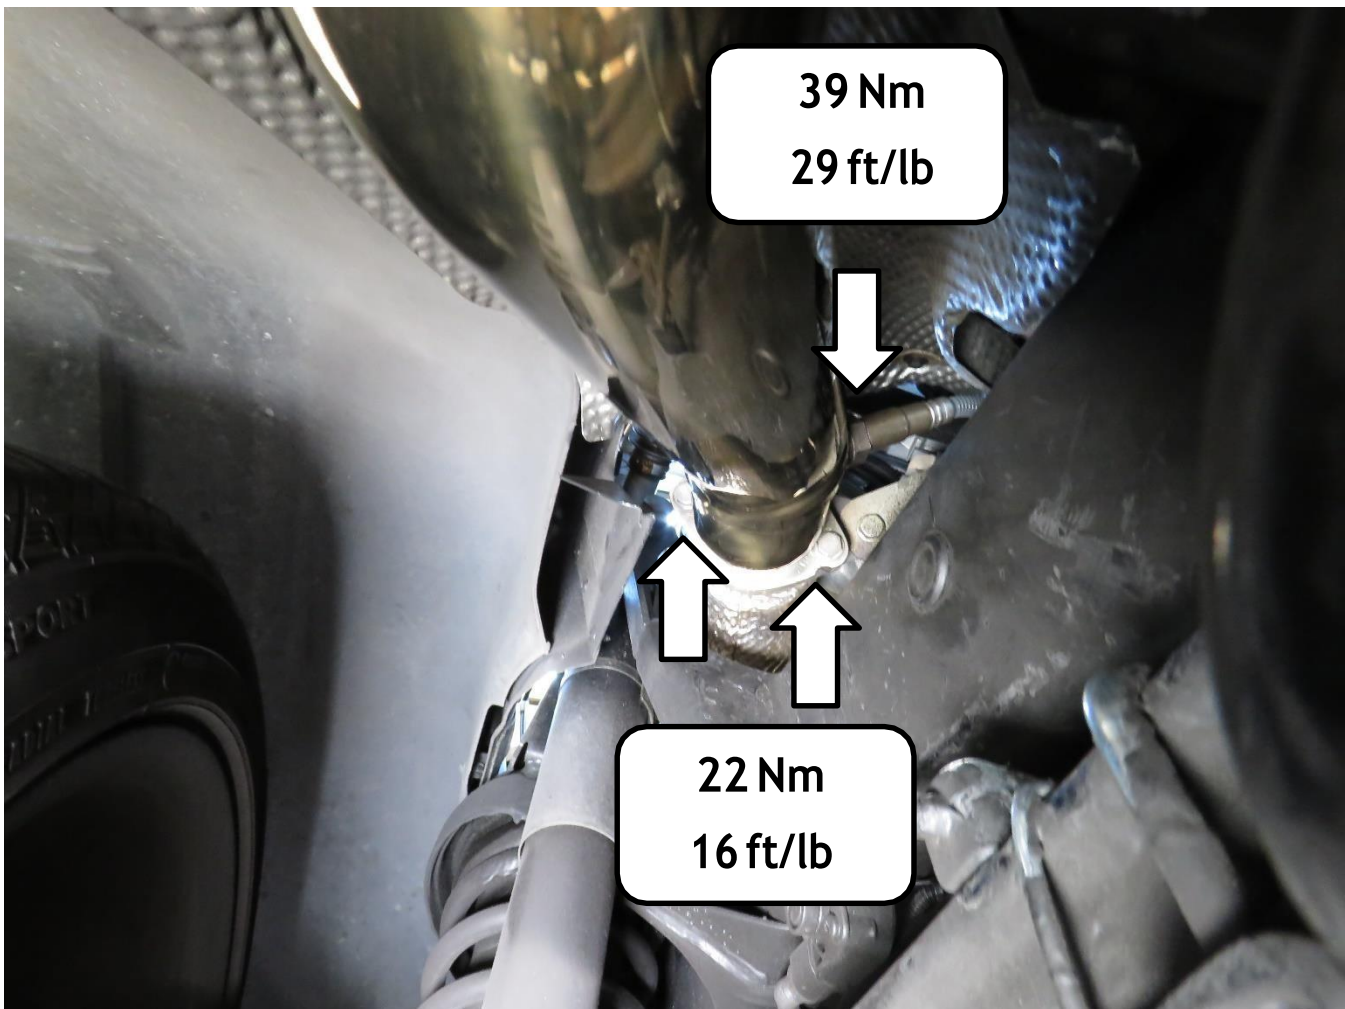
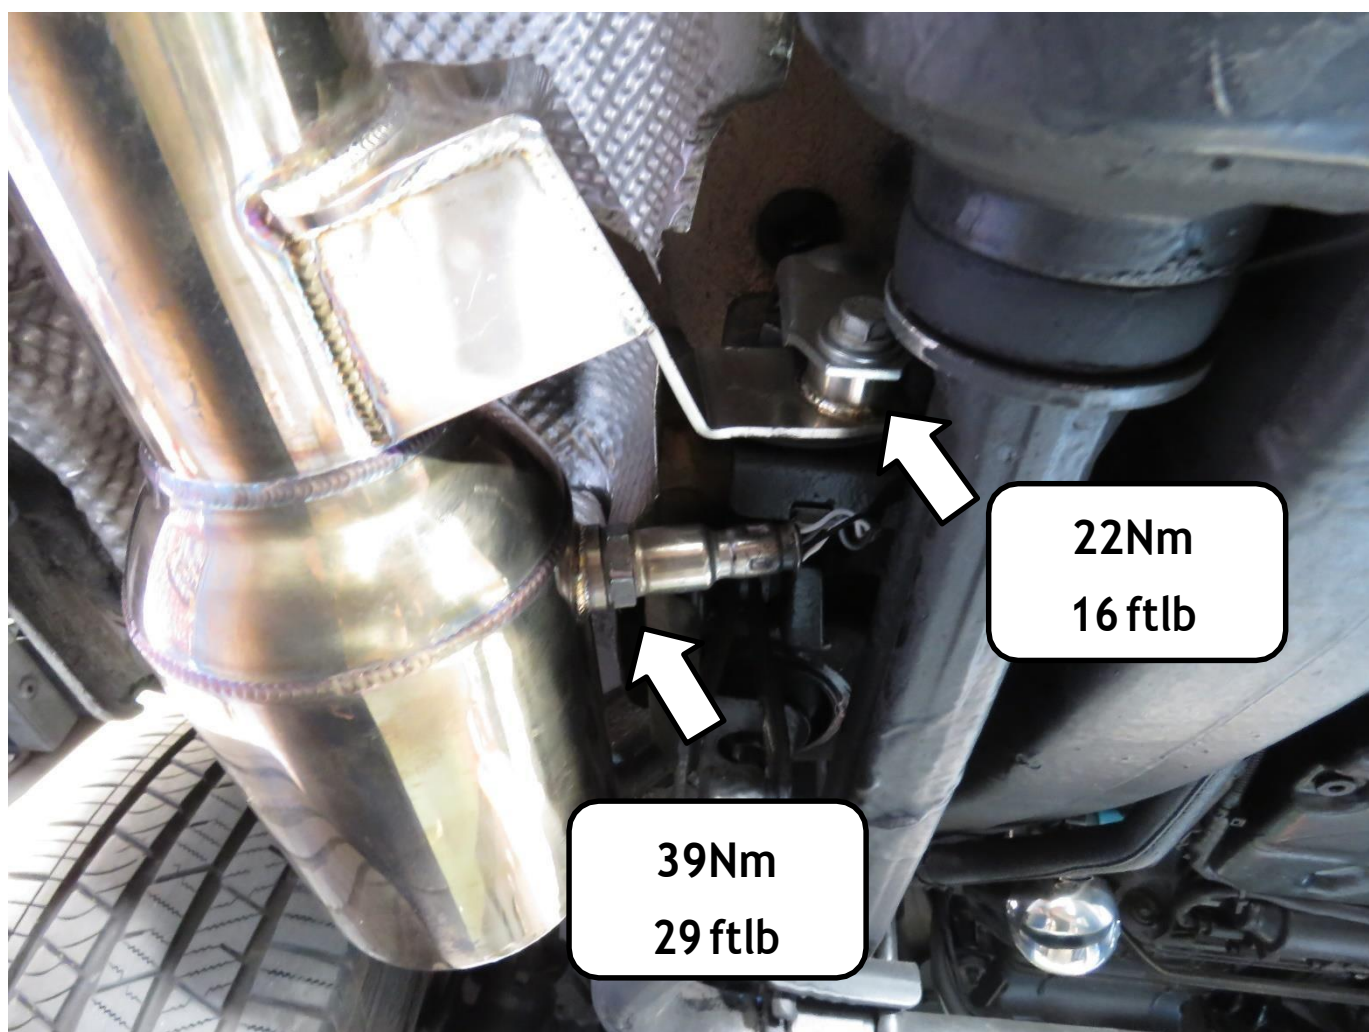

Fig.5
Fig.6
1. Install the iPE cat pipes in place (Fig. 5, Fig.6).